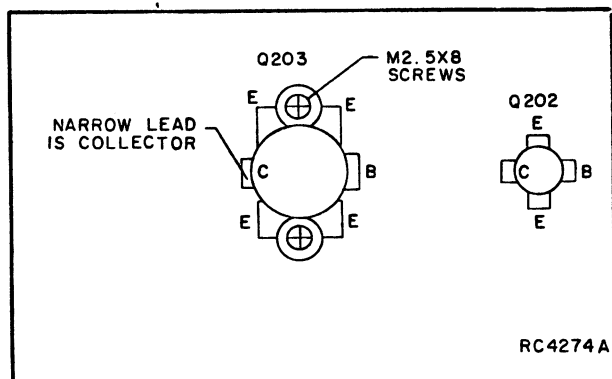

Figure 3 - Q202 and Q203 Lead Identification
4. Trim the new transistor leads (if required) to the lead length of the removed transistor. The letter "C" on the top of the transistor also indicates the collector (see Figure 3 for transistor lead identification).